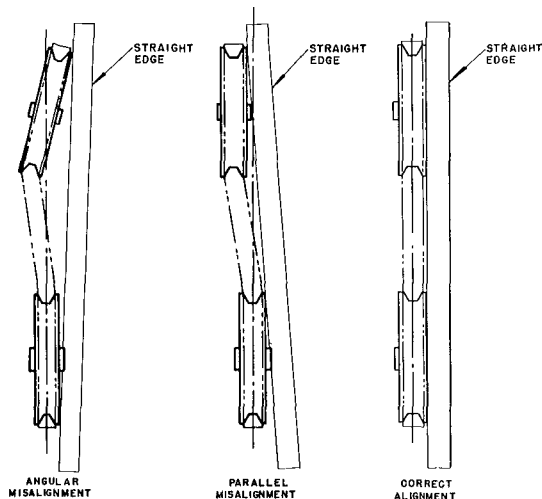

FIG. 10 - DIAGRAM OF CORRECT PULLEY ALIGNMENT
3. Use the methods outlined in Fig. 10 to check proper pulley alignment.